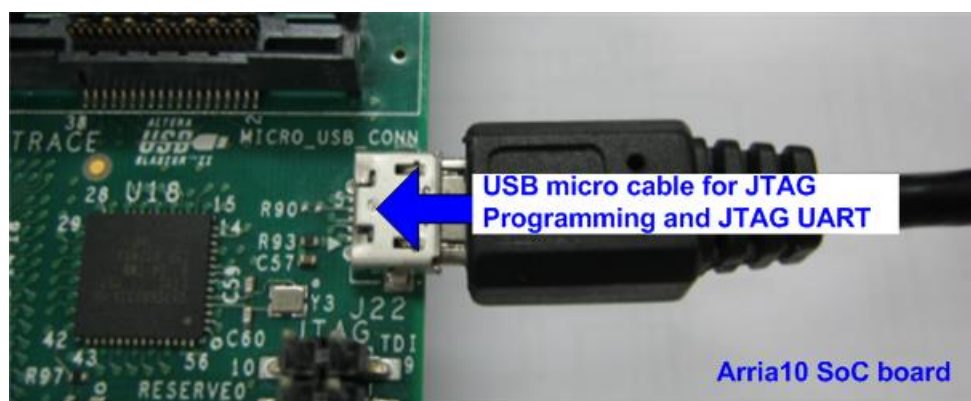

Figure 2-6 USB cable connection
- Connect micro USB cable from FPGA board to PC for JTAG programming and for NiosII command shell, as shown in Figure 2-6.